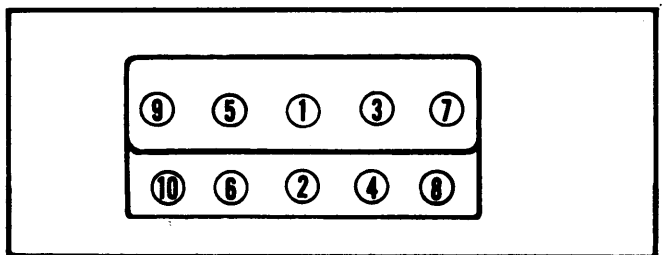

Fig. 2 Cylinder Head Tightening Sequence
**Installation** - Clean old gasket material from cylinder head and block. Position head gasket over dowels and onto block. Install cylinder head. Install bolts and tighten in 3 steps to specifications, following sequence in Fig. 2.